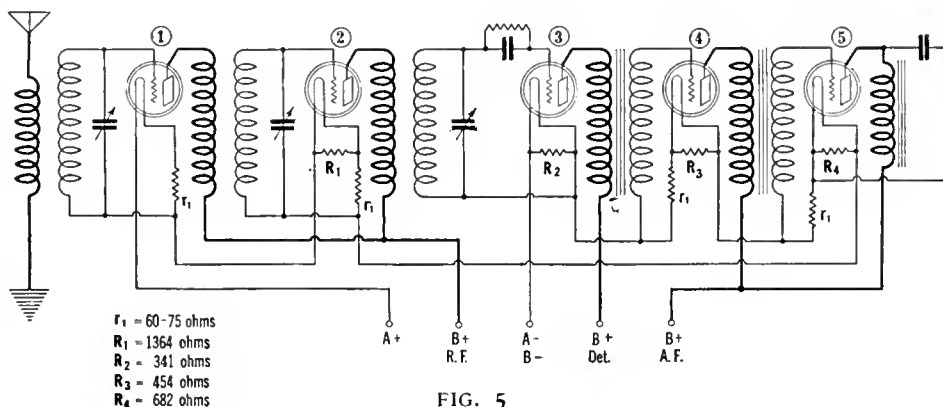

FIG. 5
The means finally adopted in obtaining correct grid biases was to place a 60- to 75-ohm adjustable resistance in series with each filament, for 199 type tubes, as shown in Fig. 5. This method is entirely satisfactory and has been used to some extent in Western Electric receivers. If adjustable resistances are used, the plate current of each tube can be set at the right value when final tests are made on the receiver. Fixed resistances may be used, however, if the constructor does not want to make this refined adjustment. The plate current of each 199 type amplifier tube can be reduced to about 2.2 mA., with 90 volts on the plates.
lined above. From a study of Fig. 5 it may be seen that r.f. currents in tube No. 1 must traverse the filament of tube No. 2; likewise, those currents in tube No. 2 must pass through the filament of tube No. 5. The question might arise whether or not this would be a source of regeneration. It was found, however, that the inclusion of the 60-ohm resistances in the grid circuit of the respective tubes
A very simple and satisfactory method of reducing the filament current overload is to shunt a bypass resistance across each filament, as shown in Fig. 5. These resistances do not all have the same values, and their proper size, for 199 tubes, is determined as follows:-
60-ohm resistor ahead of each amplifier tube for grid bias. (see Fig. 5).
3. Place shunt resistances across each filament, as shown in Fig. 5.